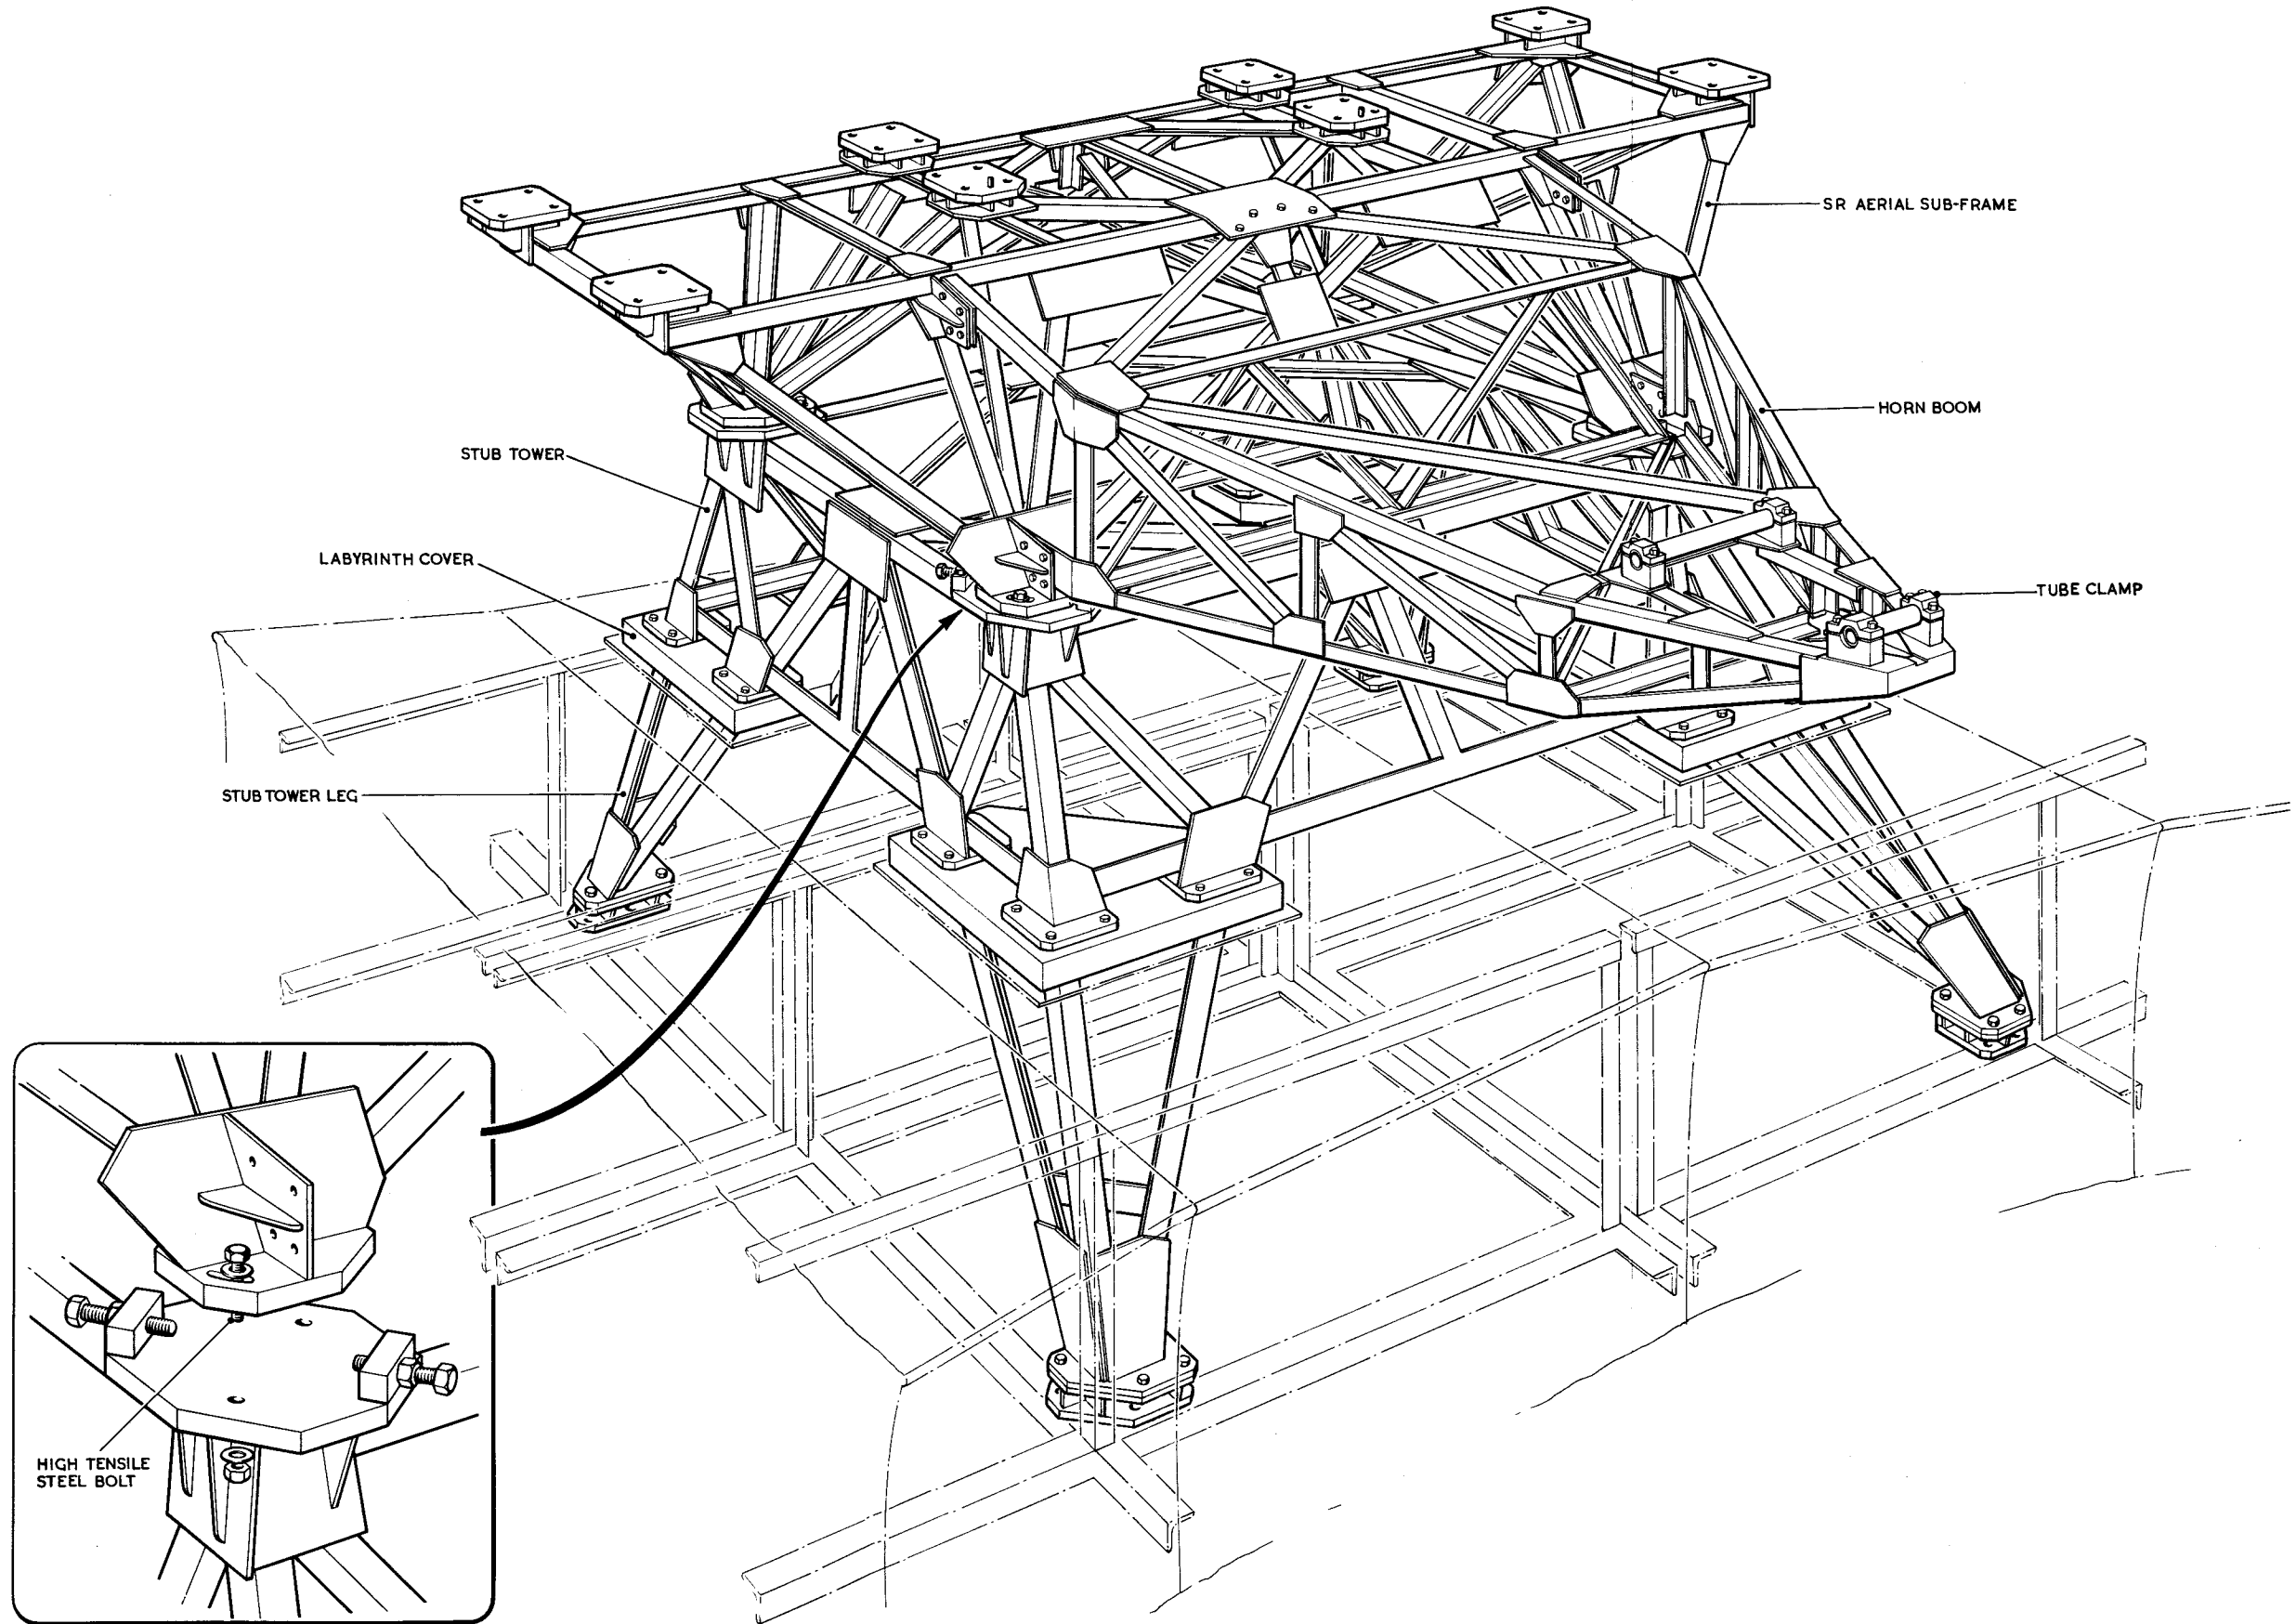

Fig. 2
4. As shown in *fig. 1*, the various controls, meters and indicator lamps are mounted on a control panel on the top of the unit. Access to the two thyratrons and the components contained inside the unit is gained by lifting the front panel (*fig. 2*). Mechanical interlocks prevent this panel being opened when the modulator e.h.t. supply is switched on. The modulator circuit incorporates a protection circuit which automatically removes the modulator e.h.t. supply if the mean current through the thyatron being pulsed exceeds 20 mA.